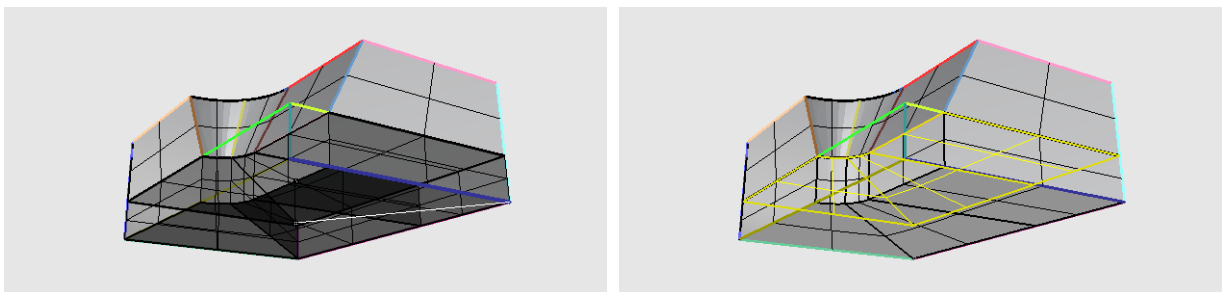

Figure 77: Extruding 3 surfaces at once
2. While the surfaces are highlighted, **Solid | Extrude Surface**. **Drag** the cursor down to any of the 4 lower **corners** of the model (Figure 77, left) and click. Note that after the extrusion is complete the surfaces remain highlighted (right). Hit **<Delete>** to delete them.